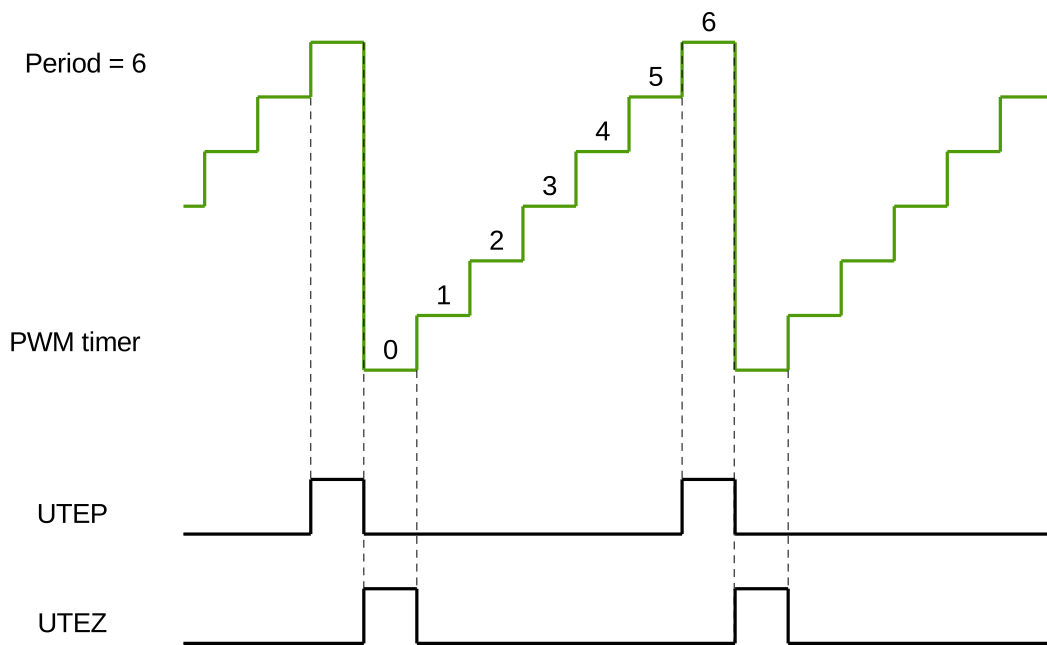

Figure 34-12. UTEP and UTEZ Generation in Count-Up Mode
Figures 34-12 to 34-14 show the timing waveforms of U/DTEP and U/DTEZ.
1. UTEP and UTEZ do not happen simultaneously. When the PWM timer is in count-up mode, UTEP will always happen one cycle earlier than UTEZ, as demonstrated in Figure 34-12, so their action on PWM signals will not interrupt each other. When the PWM timer is in count-up-down mode, UTEP will not occur.